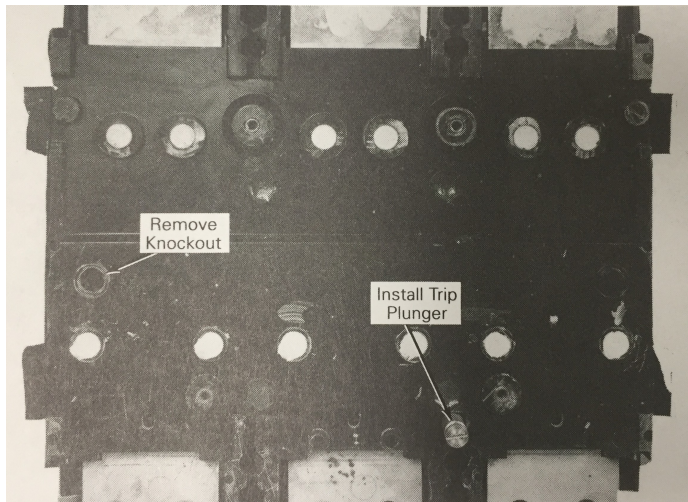

Figure 3 Trip plunger installed in the rear of the breaker.
1. Install the threaded trip plunger into the square hole on the rear of the breaker, as shown in Figure 3. Tighten to 8 in-lb.
2. Remove the knockout on the rear of the breaker, as shown in Figure 3. Be sure to clean the edges of the hole, so that the interlock plunger can move freely in and out.